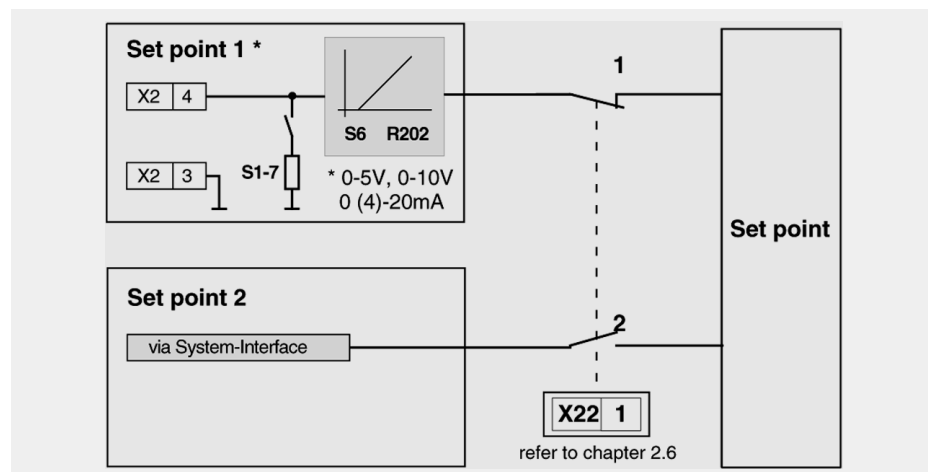

Fig. 2 Set point inputs and total set point
The set point processing depends on how the bus module is connected to the Power Controller. Different variations can be realized depending on the requirements. The circuit of Thyro-A's terminal X22.1 controls the procedures (Chap. 2.2, fig. 2).
- Thyro-A's circuit X22.1 is connected to one of the terminals X1.1 to X8.1 of the bus module (Fig. 2). In case of malfunctions on the bus line, the set point value will be taken automatically from the Power Controller analog input (2 000 000 848 / 849).
- Thyro-A's circuit X22.1 is connected to one of the terminals X1.5 to X8.5 of the bus module (Fig. 2). In case of malfunctions on the bus line, the set point value will be taken automatically from the Power Controller analog input, as indicated in Chapter 3.2, or the last set point value is held. Additionally, every controller connected to the bus module can be released by "hand" (Chapter 3.2 "set output data=0").